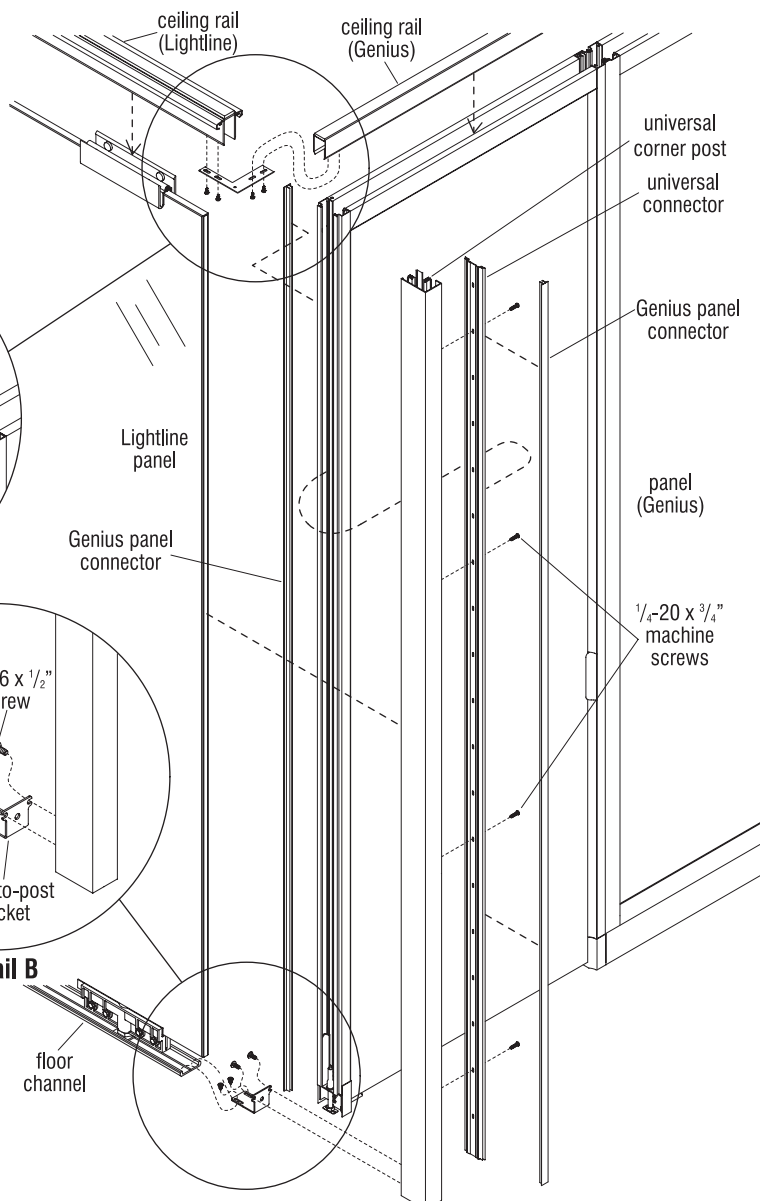

Figure 1
6. To connect, position a properly aligned and adjusted Genius panel to the universal connector, leaving about 1/16" gap between the two parts (Figure 1).
7. Insert two Genius panel connectors (one at each side) even with the top of the panel. Then, with your thumb, zip each connector firmly around the panel or post flanges, pressing down to the base (Figure 1).
9. Next, prepare Lightline panel with flexible glazing seal. See Lightline Assembly Instructions "Flexible Glazing Seal at Door Frame and Posts" (Figures 1 through 4, page 28). Once seal is installed, position a properly aligned and adjusted Lightline panel against the corner post (Figure 1).
10. Secure Lightline panel to universal post using a panel-to-post bracket. Position the panel-to-post bracket onto the continuous floor channel of the Lightline panel as illustrated. Align the bracket holes with the floor channel and secure with two screws. If securing over hard floor, use two #10-24 x 1/4" hard floor screws (V.12.0910) (shown). If installing over carpet, use two #14 x 1/2" carpet gripper screws (46.2799). Then secure the panel-to-post bracket to the corner post with two 10-16 x 1/2" screws into the post (Figure 1 & Detail B).